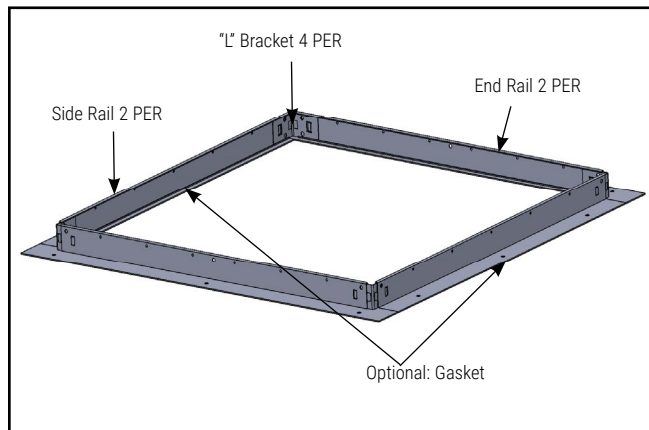

Figure 2.
2. Cleanroom: Add 66025 white gasket to the frame inside edge for housing contact outside edge for ceiling contact. (Figure 2)